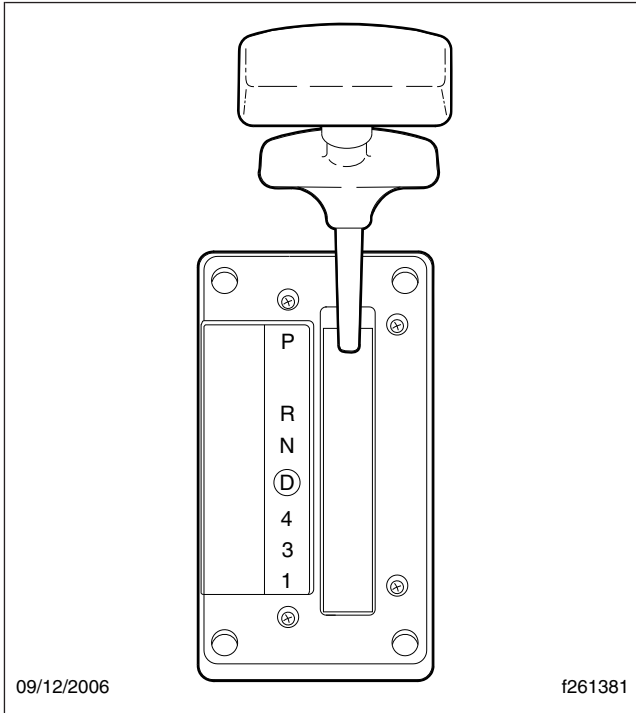
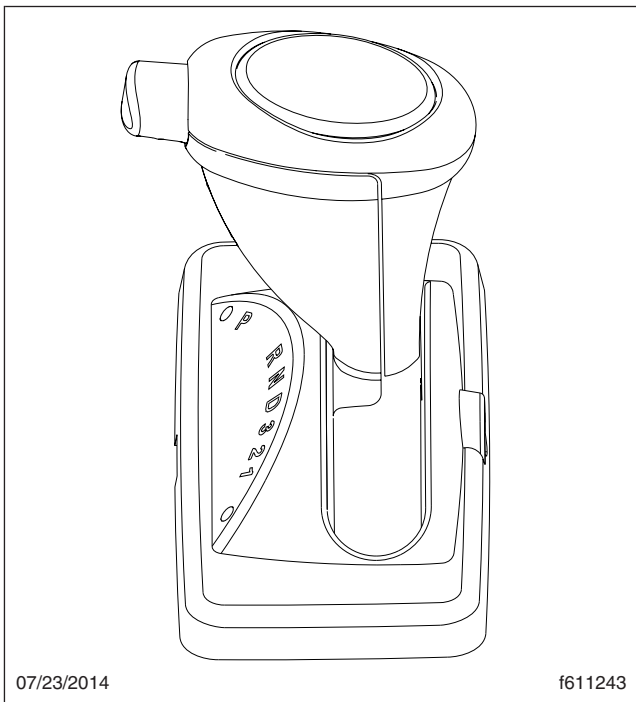

Fig. 5.1, T-Handle Shift Control (typical shifter)
Fig. 5.2, T-Handle Shift Control (optional shifter)
Allison 1000/2000/2500 automatic transmissions are electronically controlled and provide five or six forward ranges and one Reverse (R) range. Typically, a T-handle shift control is used by the driver to select the ranges. See Fig. 5.1 and Fig. 5.2.